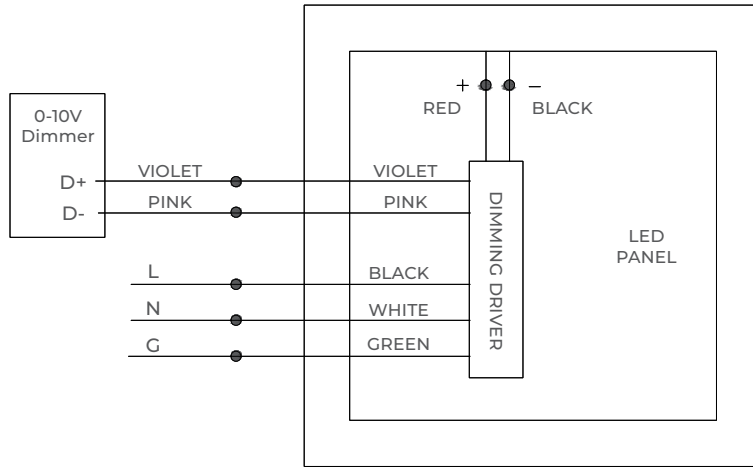

FIGURE 6
- Connect the wires with terminal cap as shown in wiring diagram (Figure 6).